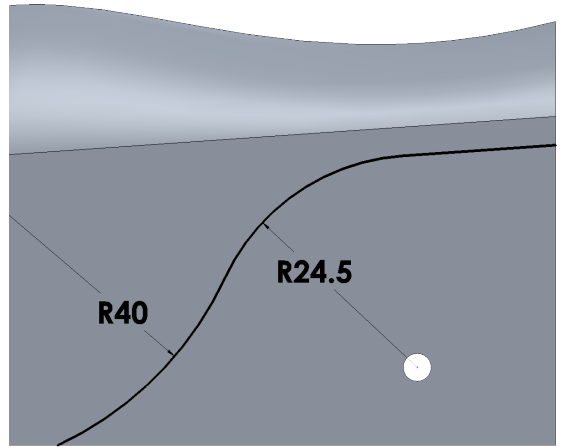

Fig. 85
Step 13. Click **Smart Dimension**  (S) on the Sketch toolbar.
Step 14. Add dimension, **Fig. 85**.